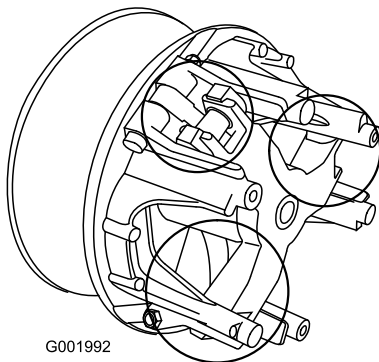

Figure 59
- Lubricate the moving parts in the areas circled in Figure 59 using Toro Dry Lubricant Spray, available through your Authorized Toro Dealer or Distributor.